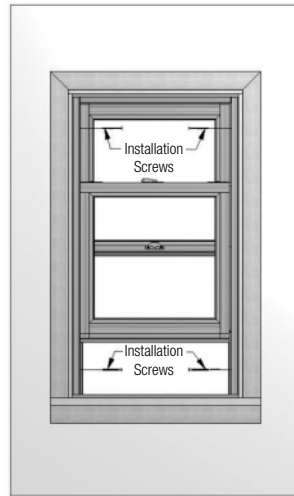

FIG. 21
- C) Apply installation screws. (Fig. 21)